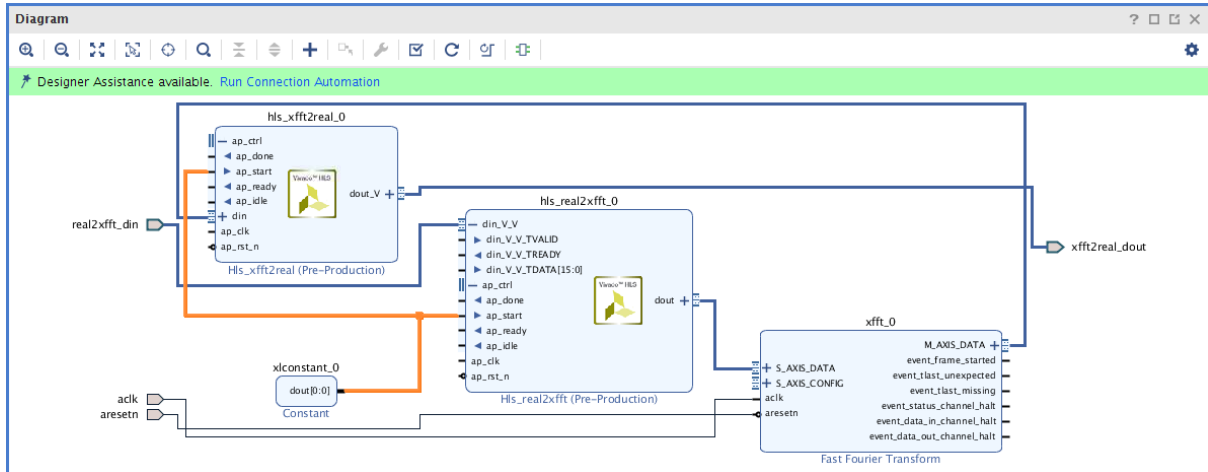

Figure 9-21: Connect AP\_START to Constant
- g. Connect `ap_start` in both HLS blocks to the Constant block (Figure 9-21).